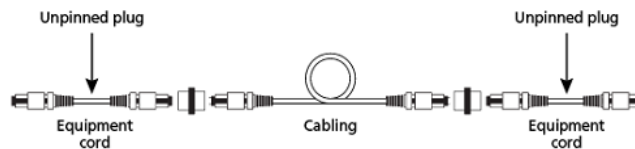

Figure 4. Unpinned plugs on both ends (channel)
- unpinned on both ends for a channel (see Figure 4).